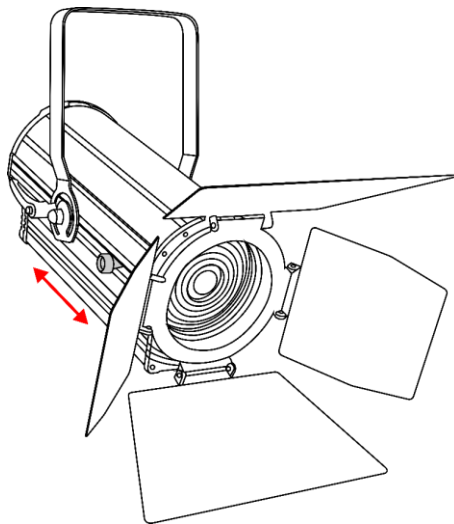

Fig. 19
- 01) Turn the **zoom control (05)** counterclockwise to loosen it.
- 02) Slide the **zoom control (05)** forwards or backwards to achieve the desired beam angle (see Fig. 19).
- 03) After adjusting the beam angle, turn the **zoom control (05)** clockwise to tighten it. Do not overtighten it.